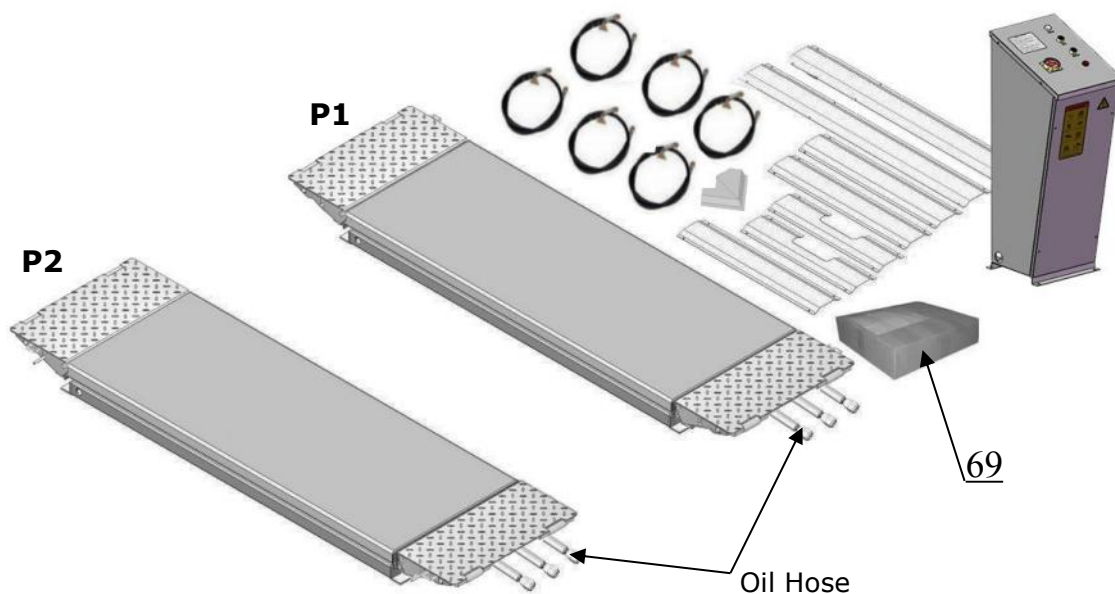

Fig. 9
2. Move aside all parts to the installation site, open the outer packing and check the parts according to the shipment parts list (See Fig. 9).